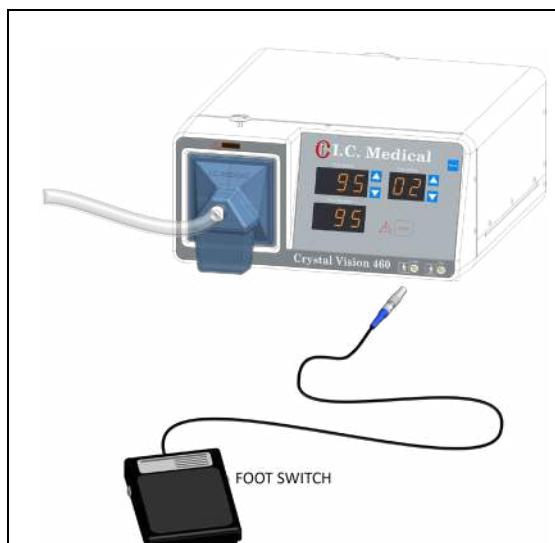

Figure 5: Foot Switch Installation
1. Plug the Foot Switch's connector into the Smoke Evacuator's ESU/Laser port as per Figure 5.